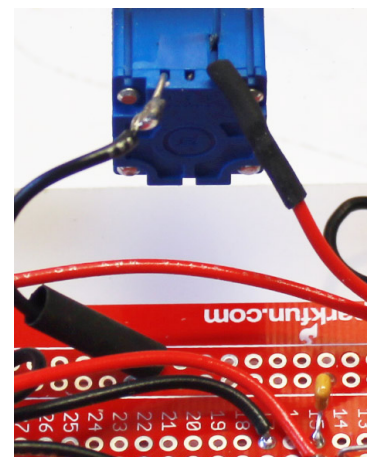

Figure 32
32. Find the black wire soldered to bottom negative power bus, 9th hole from right side. This wire will connect to one of wires on the pot, R1. The correct wire on the pot is the rear wire on the left as seen in Figure 32. Trim the black wire to fit to the pot. Slip a piece of heat shrink tubing over the wire and solder wire to the pot. Then slip the heat shrink tubing into place and heat to fix.